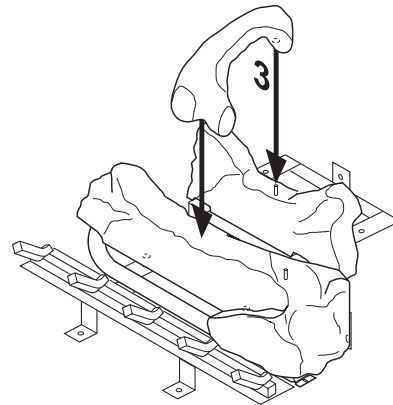

Figure 46 - Installing Log No. 3
3. Place log #3 (crossover log) onto the rear and front logs. Make sure it is seated properly on the smooth surface on the front log and on the pin on the back log as shown in Figure 46.